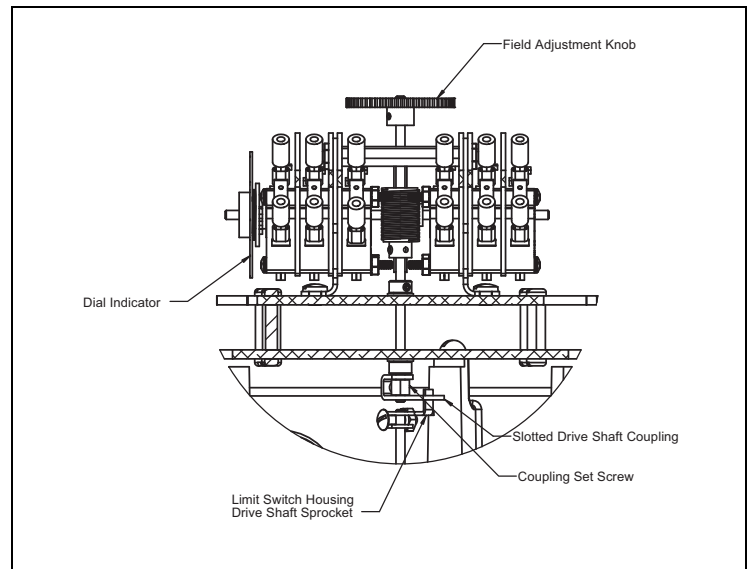

Figure 5-1: 2910 FTT Drive Shaft Coupling
2. Loosen the set screw on the encoder drive shaft slotted coupling, as shown in Figure 5-1. This allows the encoder to rotate freely without rotating the coupling.